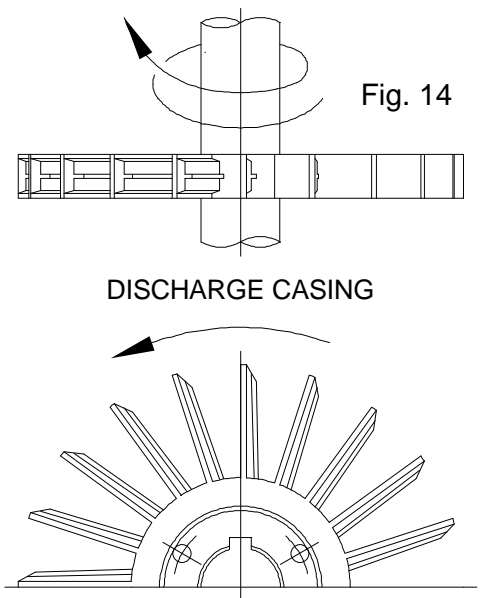

Fig. 14
- 9 - Repeat assembly steps 2, 3 & 4 with gasket "G2", suction plate, VDMA 109.1 and impeller, VDMA 230. The flat part of impeller blades should be at the right side of the shaft (from the assembler's vantage point). Therefore, the flat part of the blades will always "bite" into the liquid when rotating (see fig. 14 - NOTE: however, for this pump the wording "discharge casing" should be read as "suction casing"). Proceed with gasket "G1" and discharge plate, VDMA 114.1. If 2-stage pump, continue with gasket "G2", suction plate, VDMA 109.3; impeller VDMA 230, gasket "G1", discharge plate VDMA 114.1. If a 3-stage pump, repeat the last operation with additional parts.
Fit on the shaft the key VDMA 940.2 for the first impeller VDMA 230. Slide the impeller on the shaft with the flat part of the blades on the right of the shaft from your observing point, the impeller blades must "bite" into the liquid when rotating, see fig. 14.